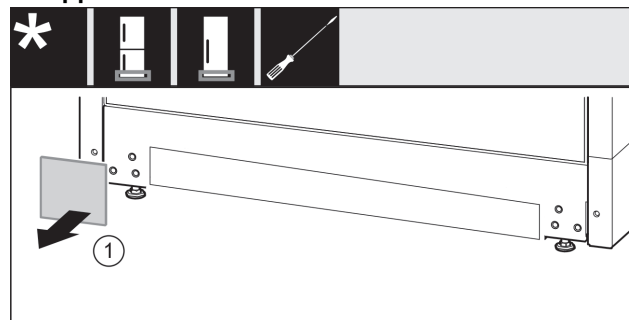

Fig. 36
- ▶ Remove the cover Fig. 36 (1).